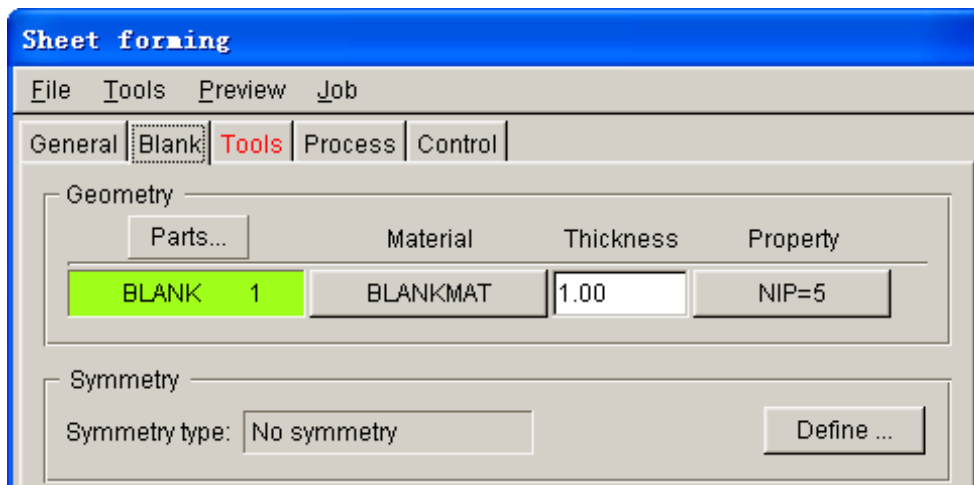

Figure 1.11 Blank definition interface
- Click the **Exit** button to return the blank definition interface. Now, the color of Blank tab is changed to from RED to BLACK. See Figure 1.11.
Once the **BLANK** part is defined, the program automatically assigns a default blank material and relative property. You can also press the **BLANKMAT** button illustrated in Figure 1.11 to edit material definition.